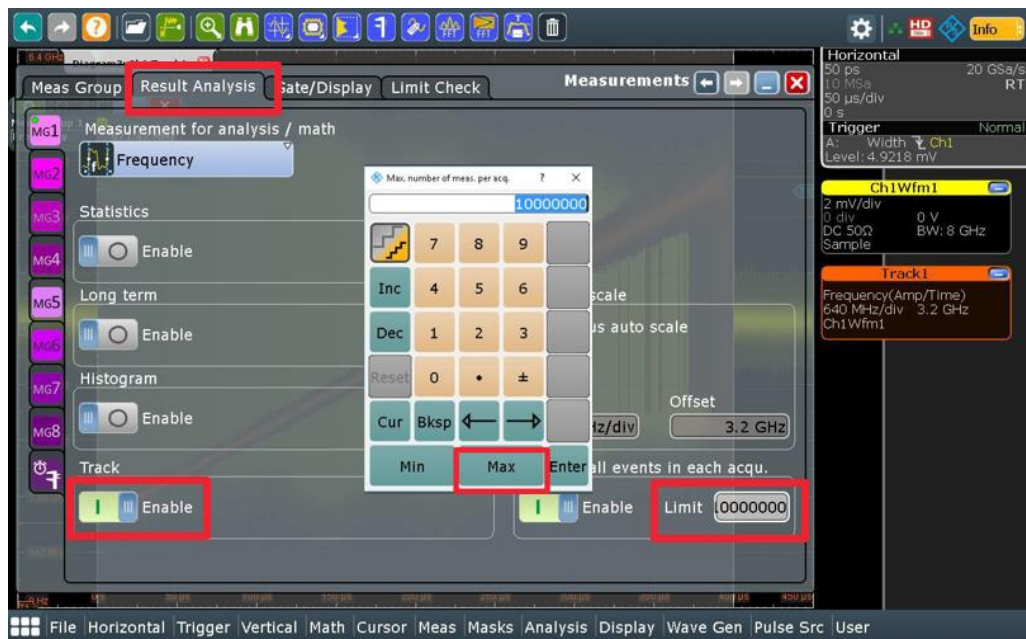

Fig. 2-12: Settings for the chirp measurement (frequency versus time)
- Select the tab *Result Analysis* (Fig. 2-12).
- In order to display the demodulated chirp for the complete pulse, increase the Limit under *Measure all events in each acquisition* to the maximum possible value (Fig. 2-12).